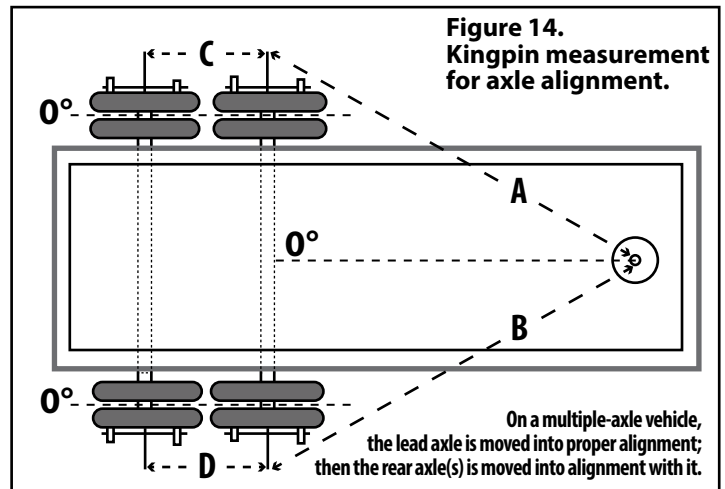

Figure 14.
On a multiple-axle vehicle, the forward (lead) axle is moved into proper alignment, then the following (rear) axles are positioned to be parallel to the lead axle (Figure 14).
Use extreme care; as measurement errors can take up most, if not all, of the alignment tolerances (Figure 14).
4. Push/pull on breaker bar to adjust the beam forward or backward into lead axle alignment (Figure 14). NOTE: Verify that pivot bushing is not wedged sideways during beam movement. The adjuster plate and the alignment washer should both rotate as the beam moves.